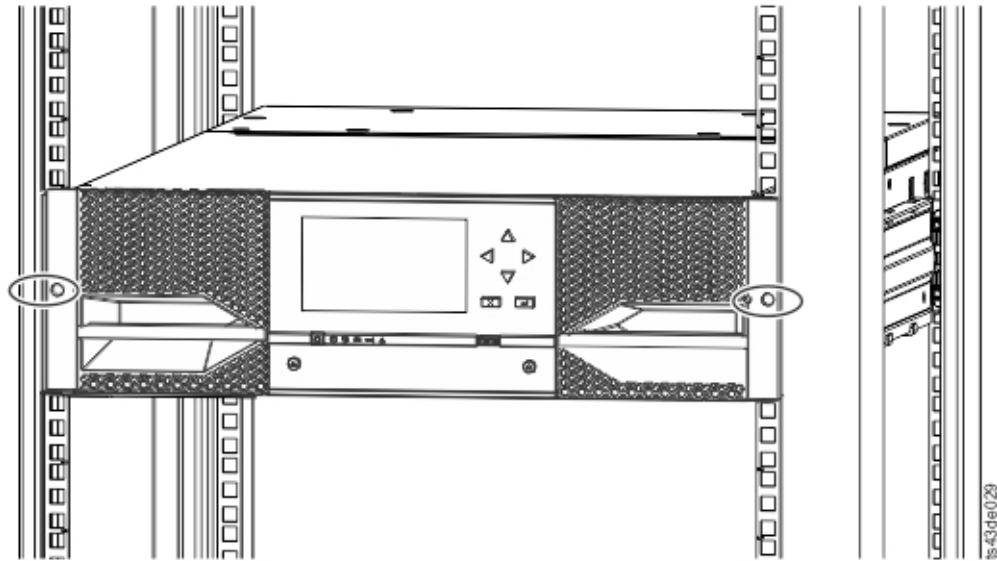

Figure 41. Library in the rack
5. With a Phillips screwdriver, loosely screw the module to the front of the rack, one screw on each side. See the circled areas in Figure 41 on page 47.